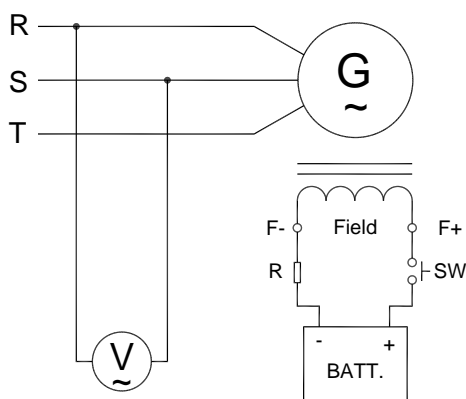

Figure 4 Manual Field Flash
4.2.1 Shut down generator, disconnect the wiring between AVR and generator then flash the field. Flashing duration = 3 seconds. (See wiring in Figure 4)
4.2.2 Restart generator and measure the residual voltage by AC Voltmeter, if it is still less than 5 Vac, repeat the previous process, after several times, the residual voltage still cannot be built, Kutai EB500 is strongly recommended, see Figure 4.